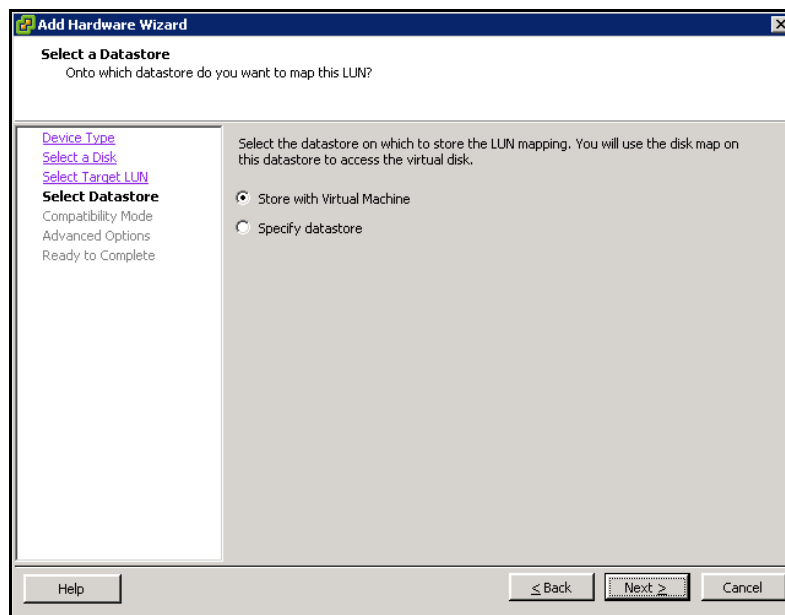

Figure 4-28: Select a Datastore Screen (Add Hardware Wizard)
6. Select the LUN you want to use for the raw device (Command Device) and click **Next**. The Select a Datastore screen appears (Figure 4-28).